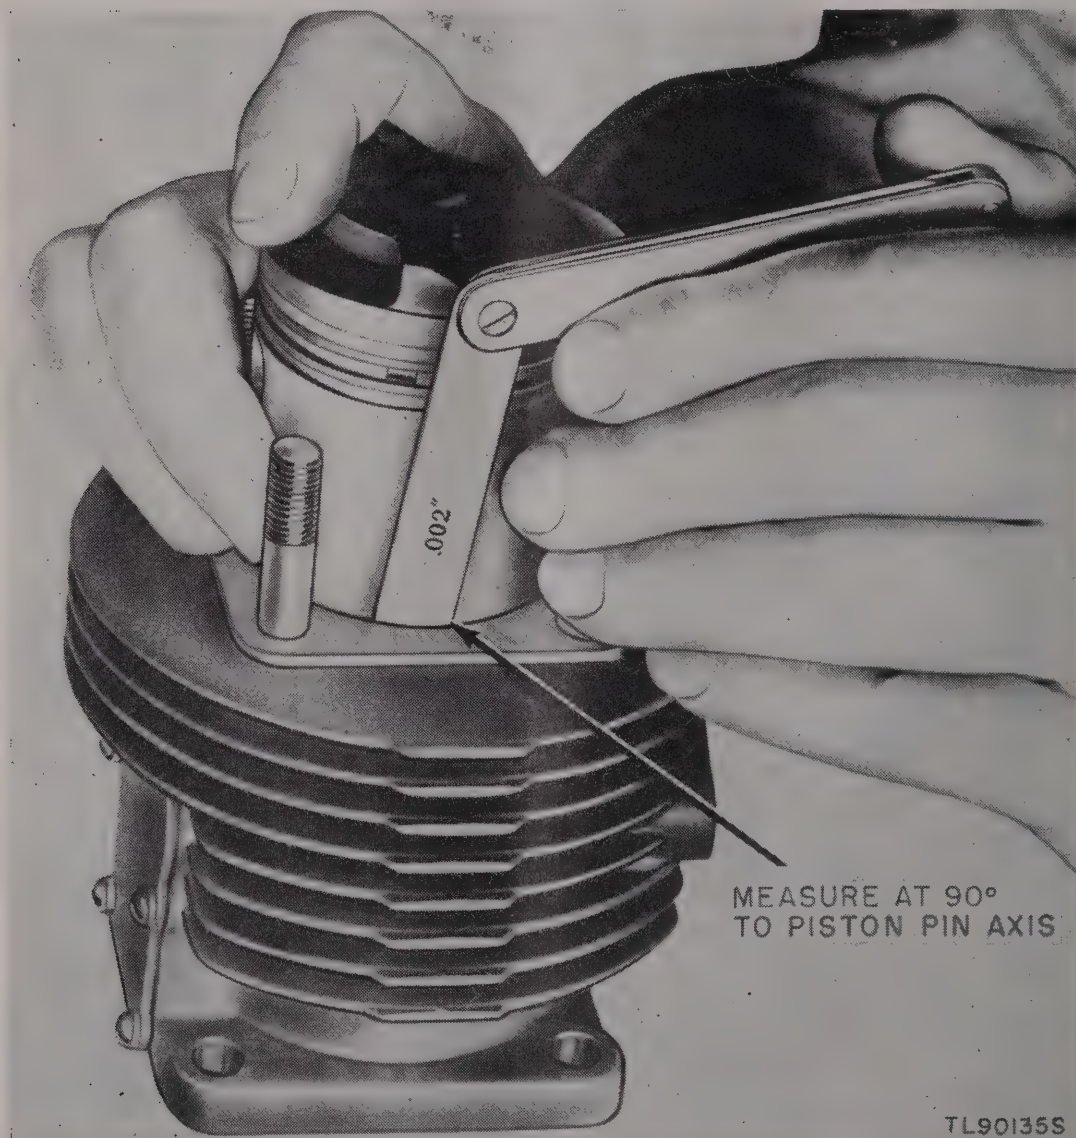

Figure 37. Checking piston skirt clearance.
b. **CLEANING AND INSPECTING.** Clean all carbon from piston head and piston ring grooves. Clean piston and rings in solvent (SD). Thoroughly clean the piston grooves. Inspect piston for cracks and condition of grooves and ring lands. If there are any cracks, the piston should be replaced. Clean the connecting rod bearings with solvent (SD) and inspect them for excessive wear or defects. If a connecting rod bearing is worn or defective, replace the entire rod. Check all clearances and tolerances as follows:
- (1) Insert skirt of piston in cylinder with pin in its normal direction and measure clearance at bottom of skirt at a point  $90^\circ$  from the axis of the piston pin (fig. 37). This clearance should be from 0.0025 to 0.0035 inch. Remove piston from cylinder and measure the diameter of the piston skirt at  $90^\circ$  from the